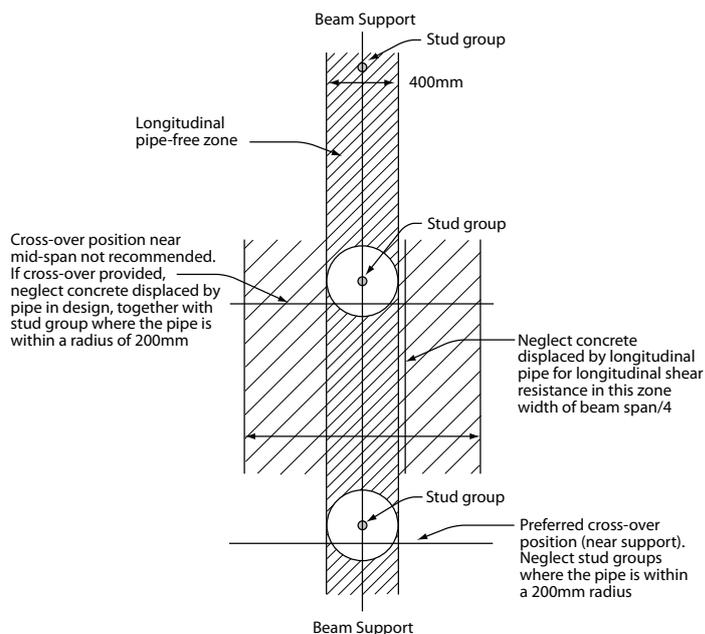

Figure 4. Recommendations for pipe positioning and implications for design for composite beams with 100 mm high stud shear connectors
- ◆ Pipes should be located as shown in Figure 4. The 400 mm width of pipe-free zone is based on the use of 100 mm high stud shear connectors.